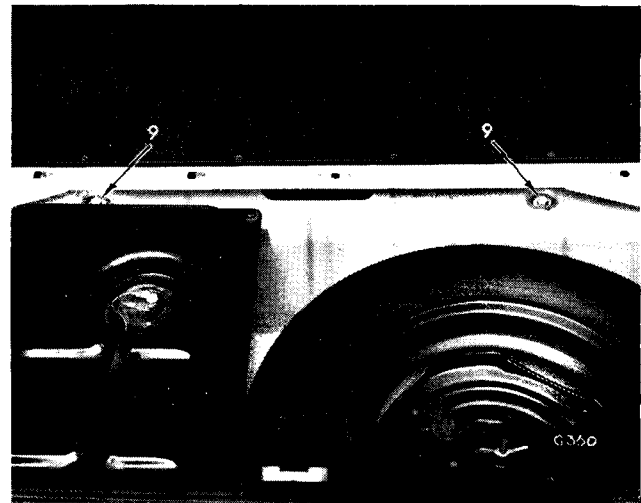

Fig. 7. Spring tunnel mounting points
Two adjacent to the rear spring access cover (9), Fig. 7. These bolts are covered by grommets.